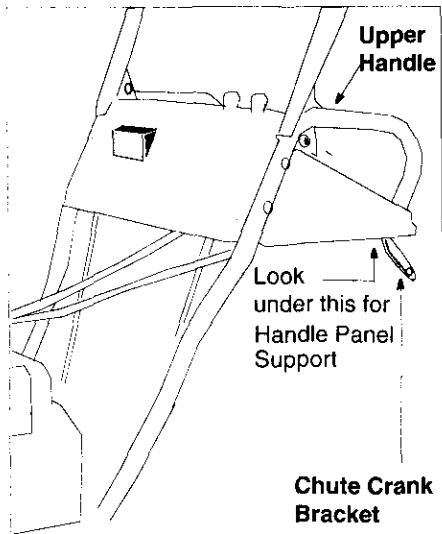

Figure 5
- On the left side of the handle panel, place the upper chute crank bracket on to the inside of the handle panel support. Locate this bracket and associated hardware in group F of hardware pack. See Figure 5.